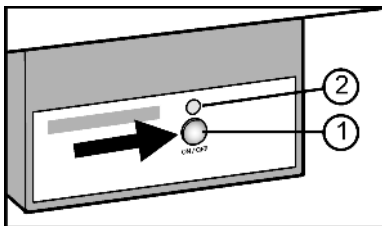

Fig. 29
- ▶ Press the On/Off button Fig. 29 (1) so that the LED Fig. 29 (2) shines.